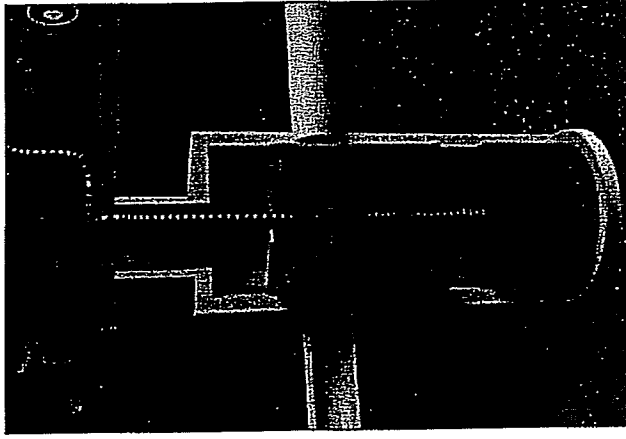

Fig.5 Sediment is removed with a vector hose (First Defense model FD-4, shown).
Floatables clean out is typically done in conjunction with sediment removal. A commercially or municipally owned sump-vac is used to remove captured sediment and floatables (Fig.5).
4. Remove oil and floatables stored on the surface of the water with the vector hose (Fig.5) or with the skimmer or net (not pictured).
6. Once all floatables have been removed, drop the vector hose to the base of the sump. Vector out the sediment and gross debris off the sump floor (Fig.5).